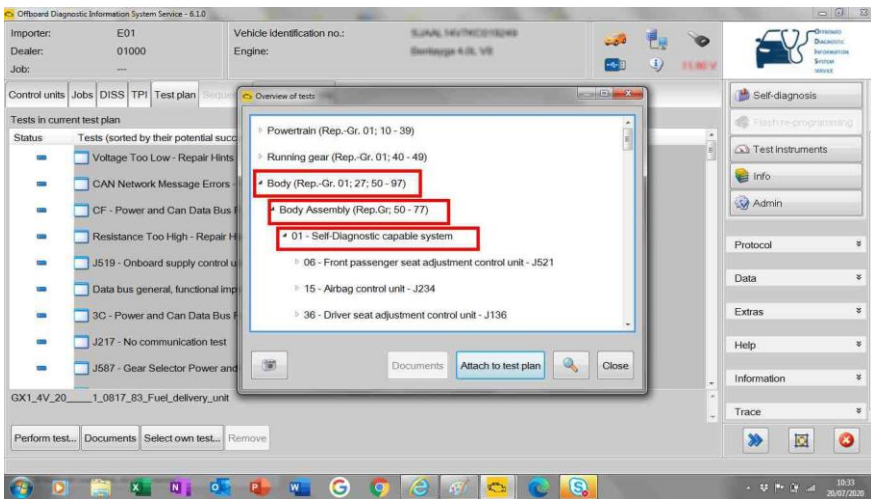

Figure 3
- Select “Body (Rep.-Gr.01,27,50-97)” – Figure 3.
- Select “Body Assembly (Rep.Gr.50-77)” – Figure 3.
- Select “01 – “Self-Diagnostic capable system” – Figure 3.